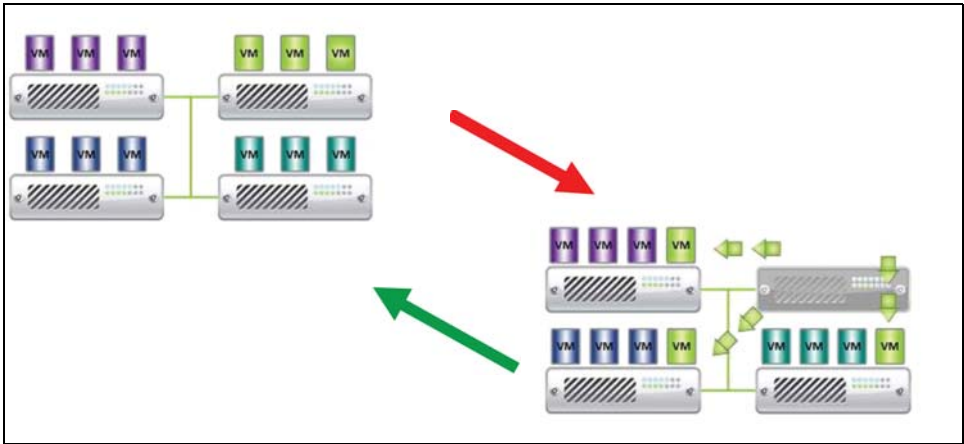

Figure 204. HA Mode with Eaton IPM
- Eaton IPM continues to move the VM from one server to the others, if all servers are powered by different UPSs with different power source (see Figure 204).